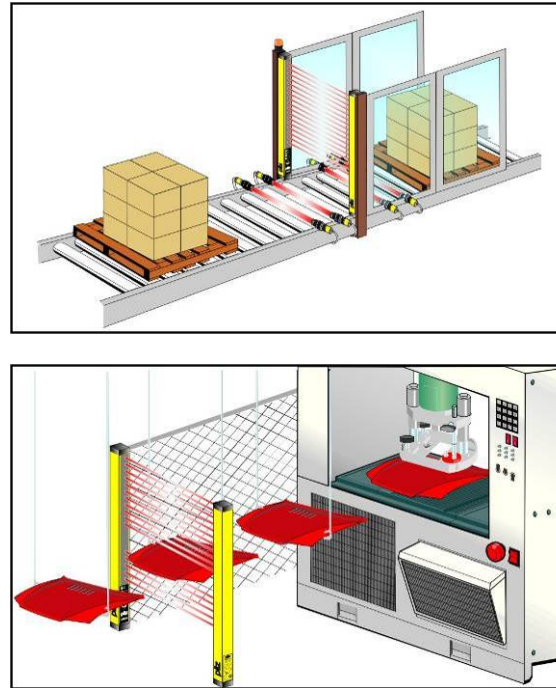

Fig. 22
- The muting function can be selected via DIP switches; it enables the safety device to be suspended temporarily while material is transported through the protected field (Fig. 22).